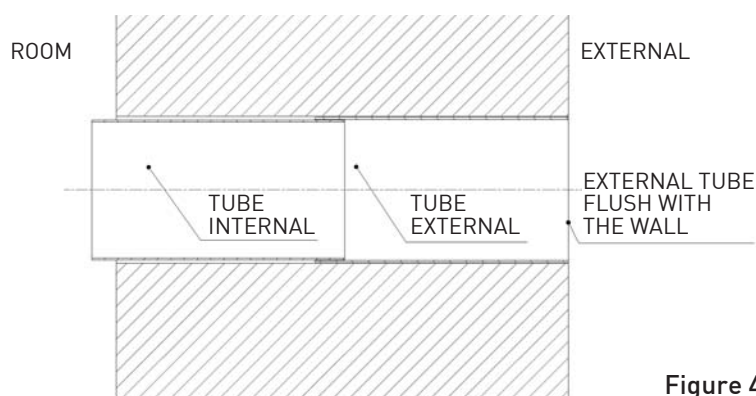

Figure 4
3. Insert the telescopic tube making sure that the larger diameter tube is flush with the outer wall (Figure 4).